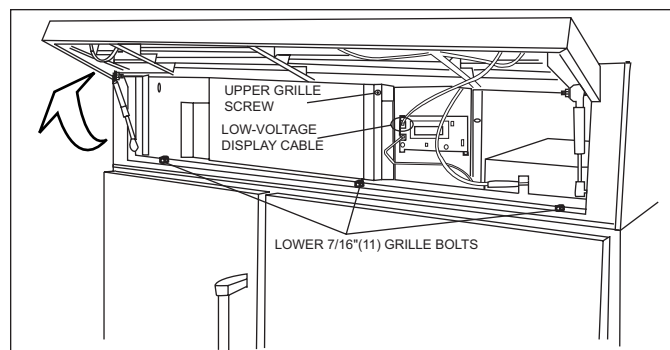

Figure 2-8. Grille Removal
In order to prevent damage to the top grille assembly, it is recommended the grille be removed prior to moving the unit. Rotate the lower portion of the grille up. (See Figure 2-8) Disconnect low-voltage display cable connecting the grille assembly to the technician's display module. Extract the 7/16"(11) bolts from grille base. Remove the phillips screw from the upper grille. Remove the grille in order to access the power cord and to move the unit through doorways. To access power cord, release the cord from the retainer clips.
4. Install twelve 12 x 2-1/2" (64 mm) wood screws and twelve 1/4" (6 mm) flat washers. (See Figure 2-8)